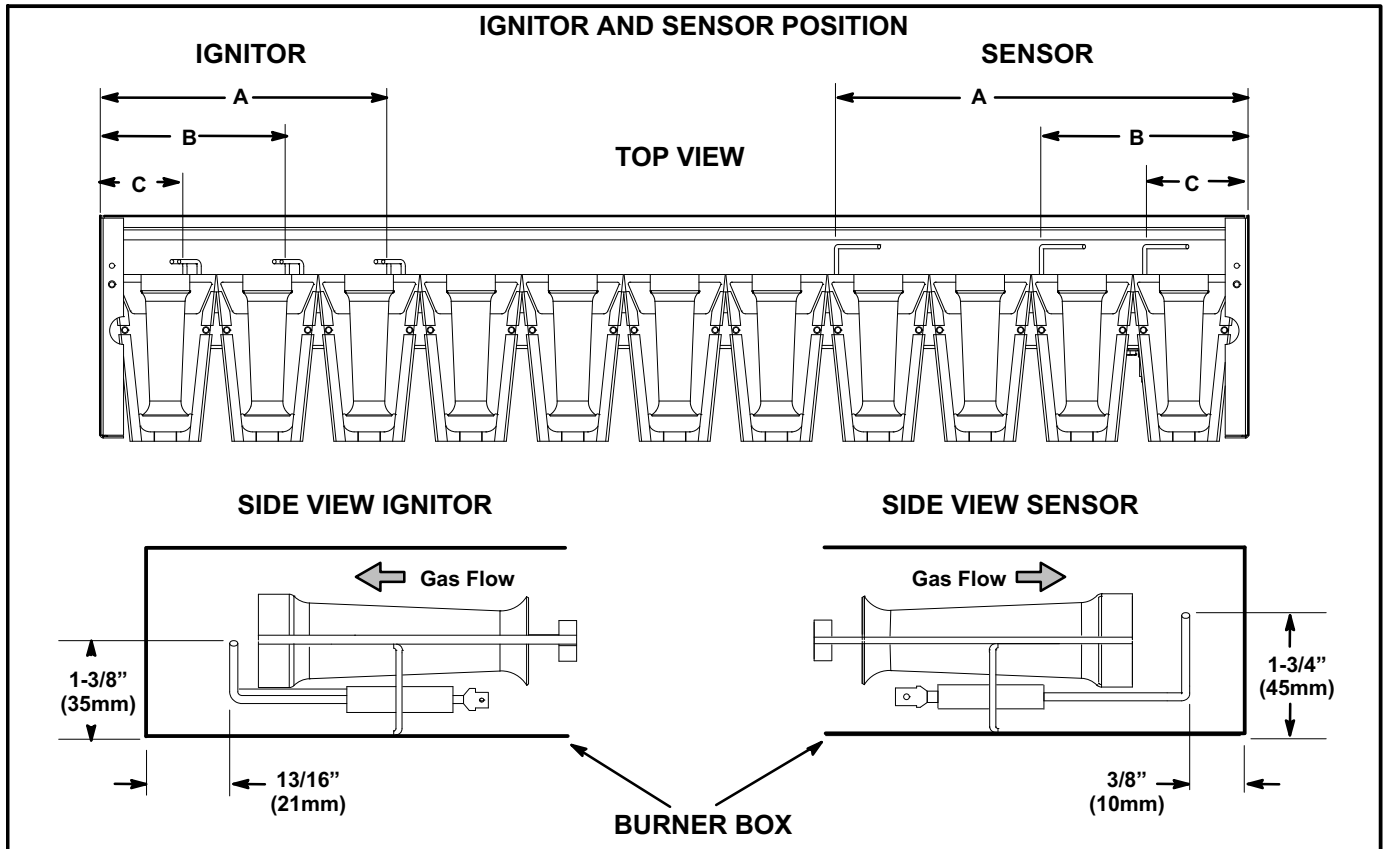

FIGURE 28
- 5- Check the alignment of the ignitor and the sensor as shown in figure 28 and table 18.